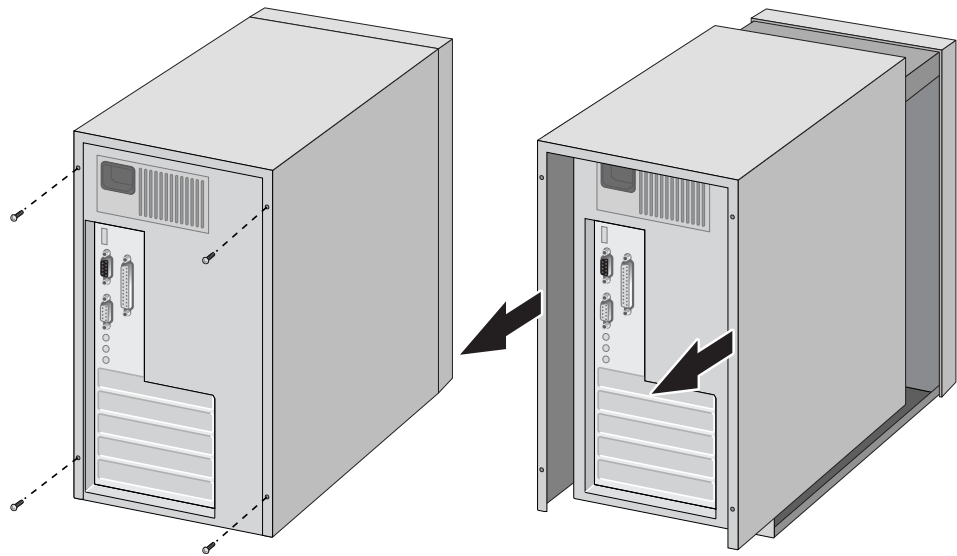

Figure 11. Removing the PC Cover
2. Remove the system cover and select any appropriate empty PCIe slot. See Figure 11 on page 38.